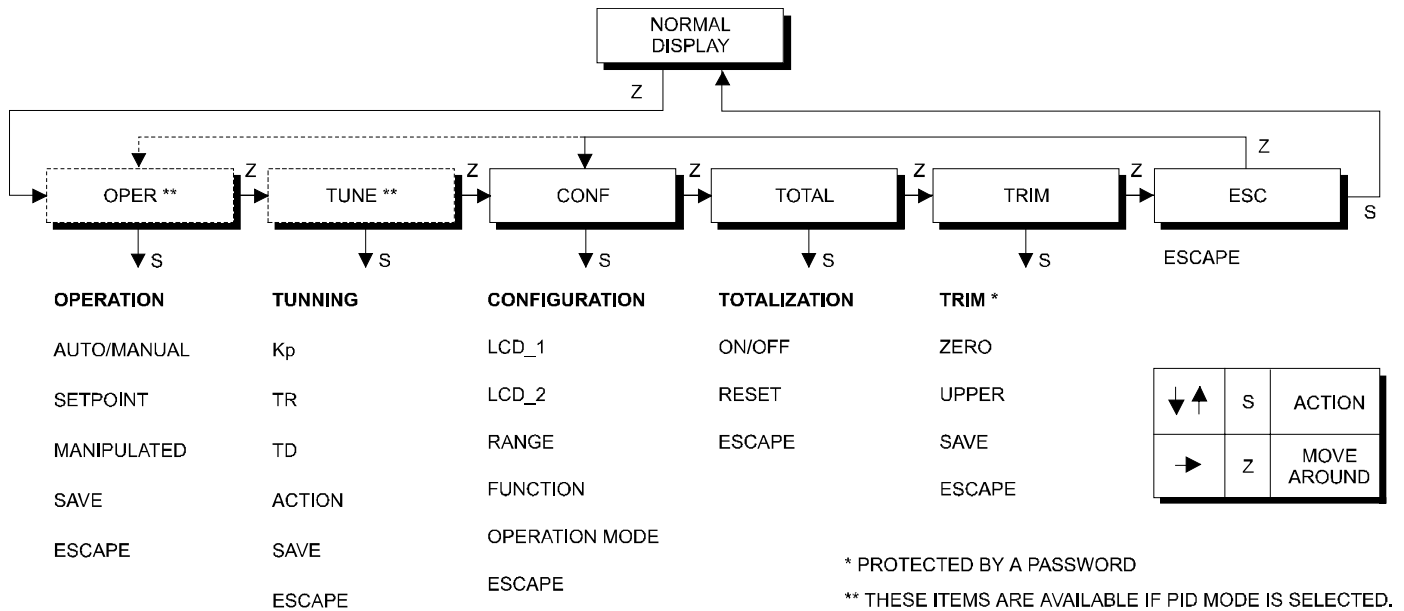

Fig. 4.2 – Local Adjustment Programming Tree – Main Menu
2 - In order to reach the desired option, browse the options, wait until they are displayed and move the magnetic tool from (Z) to (S). Refer to Figure 4.2 – Programming Tree Using Local Adjustment, in order to know the position of the desired option. By placing the magnetic tool once again in (Z), it is possible to browse for other options within this new branch.
The local adjustment uses a tree structure where, by placing the magnetic tool in (Z) it is possible to browse the options of a branch and, by placing it in (S), details of the chosen option are shown. Figure 4.2 - Programming Tree Using Local Adjustment shows the LD301 available options.